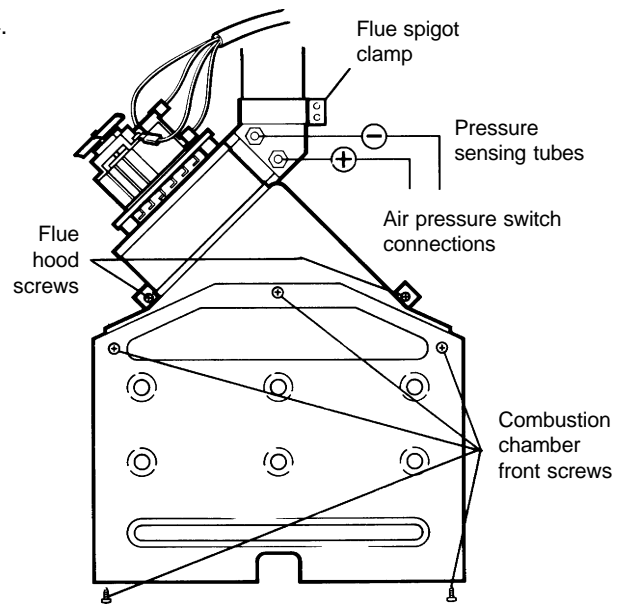

Fig. 20
8.7 FAN - Fig. 20
Ensure the pressure tubes are connected correctly (see Fig. 20). (— and + marked on the fan outlet), and that the bottom of the combustion chamber cover is located in the burner.